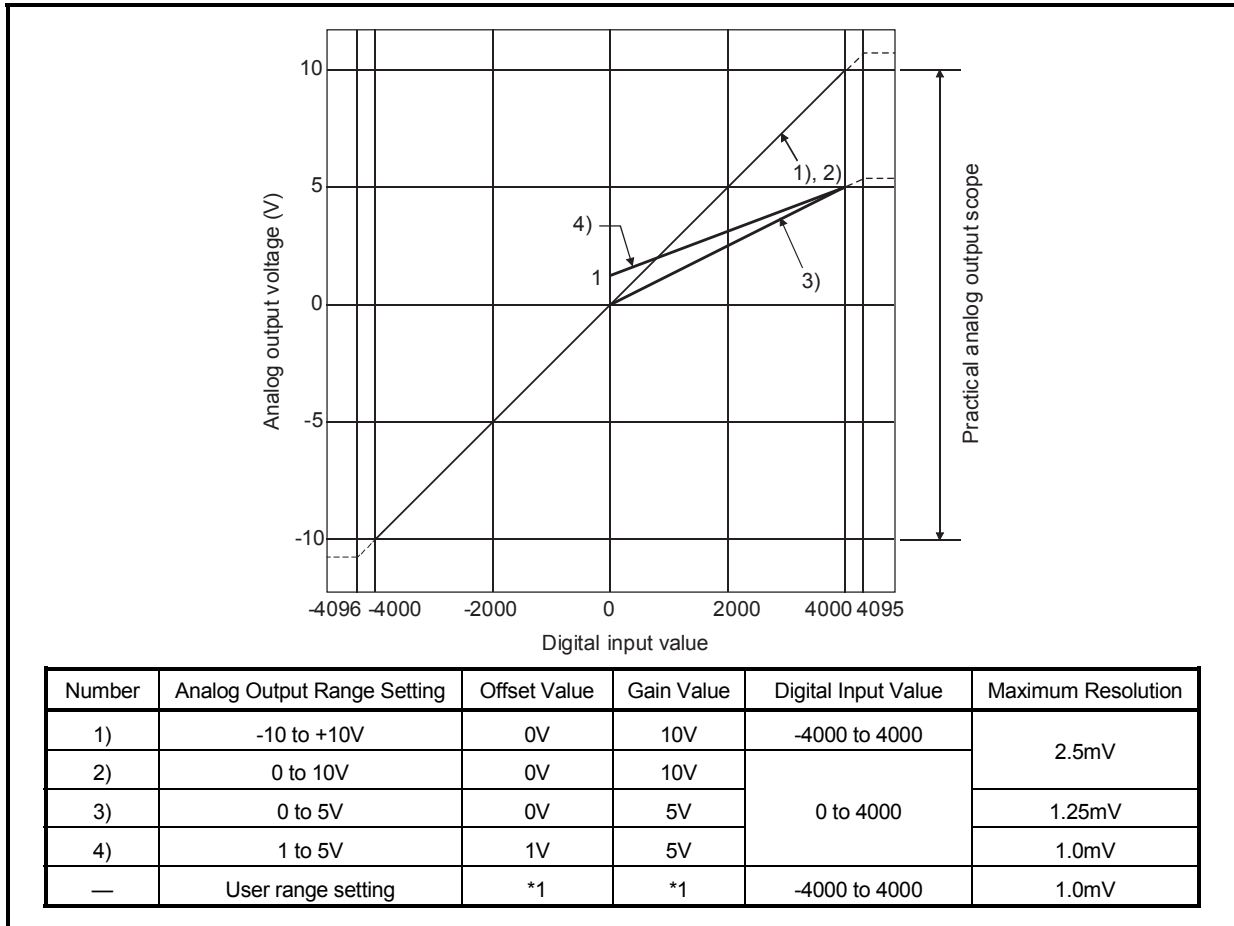

Fig. 3.1 Output characteristics of ST1DA2-V
<p>(1) Within the digital input and analog output scopes of each output range, the maximum resolution and accuracy are within the performance specification range. Outside those scopes, however, they may not fall within the performance specification range. (Avoid using the dotted line part in Fig. 3.1.)</p> <p>(2) Set the offset/gain values for the user setting range*1 within a range in which the following conditions are satisfied.</p> <p>(a) Offset/gain value setting range: -10 to 10V</p> <p>(b) (Gain value) > (Offset value)</p> <p>(c) { (Gain value) – (Offset value) } ≥ 4V</p> <p>If condition (b) is not satisfied, ERR.LED turns on, the value will not be written to the module.</p> <p>When the setting is outside the condition in (c), conversion is made but the resolution is within the maximum resolution range of the performance specifications.</p>